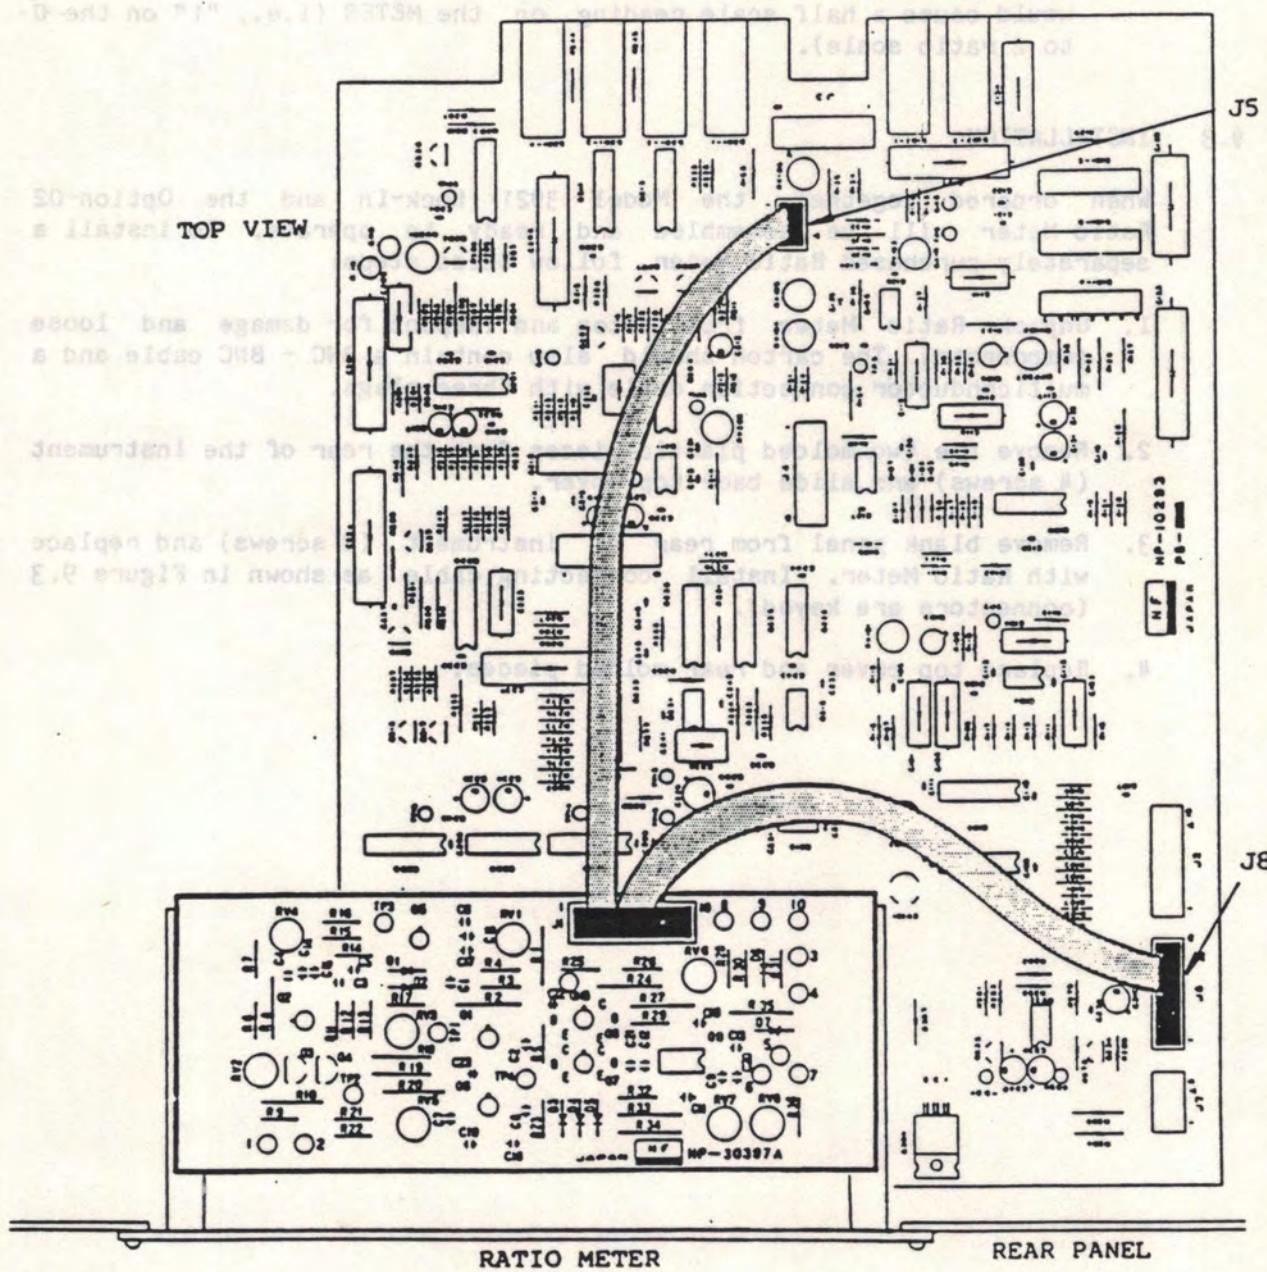

Figure 9.3 RATIO METER CONNECTION
3. Remove blank panel from rear of instrument (2 screws) and replace with Ratio Meter. Install connecting cable as shown in Figure 9.3 (connectors are keyed).